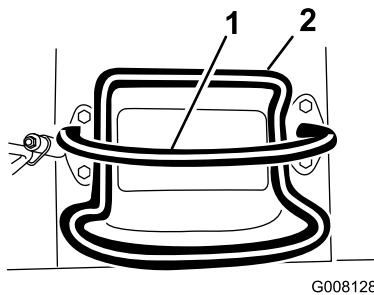
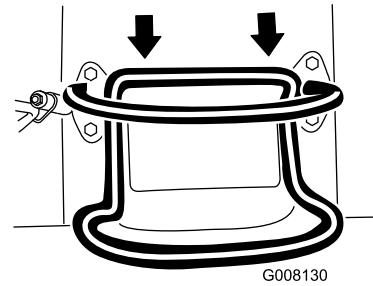

Figure 7
Figure 9
- To move rearward, move the traction control rearward (Figure 9). When reversing, look behind for obstructions and keep your hands on the reference bar (Figure 7).
- To stop, release the traction control (Figure 7).